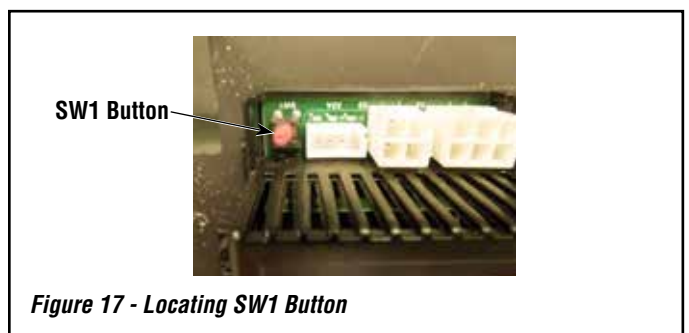

Figure 17 - Locating SW1 Button
1. Insert the three (3) provided AAA batteries into the battery bay in the transmitter, taking care to correctly align polarity (+/-).
3. Press and release the red (SW1) button (**Figure 17**).